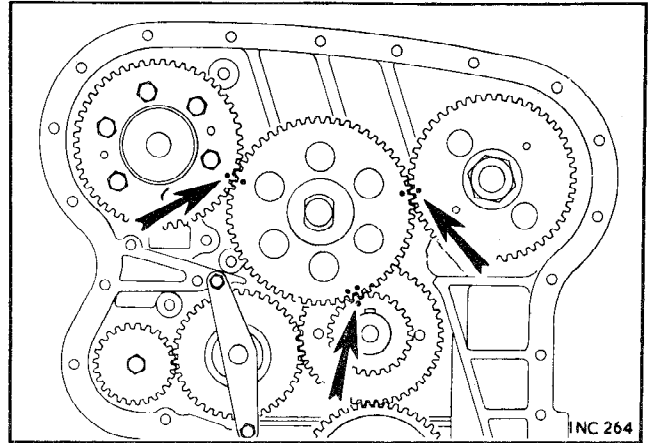

Fig. 2
16. Refit the crankshaft nut and rotate the crankshaft until the timing marks on the timing gears are in the positions shown in Fig. 2, then remove the nut.
- b. Assemble the timing gears with their timing marks positioned as shown in Fig. 2.